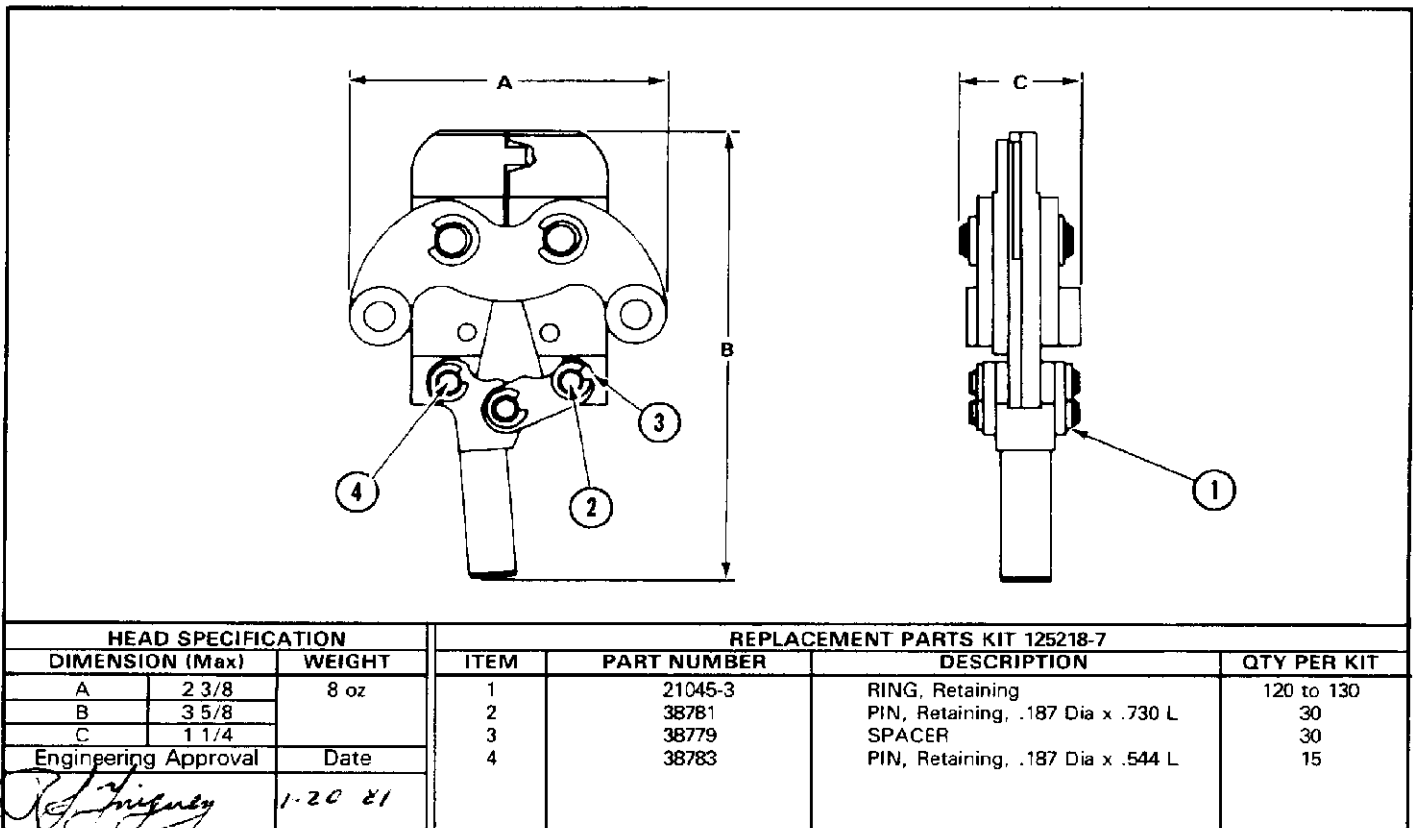

Fig. II-1
Customer replaceable parts are listed in Figure II-1. A complete inventory should be stocked and controlled to prevent lost time when replacement of parts is necessary. When kit items are needed, order replacement kit part number.
2. Make certain all retaining pins are in place and secured with retaining rings. If replacements are necessary, refer to parts listed in Figure II-1.
Parts other than those specified in Figure II-1 must be replaced by AMP to ensure certification of the head assembly. When repair is necessary, return the head assembly with a written description of the problem to: